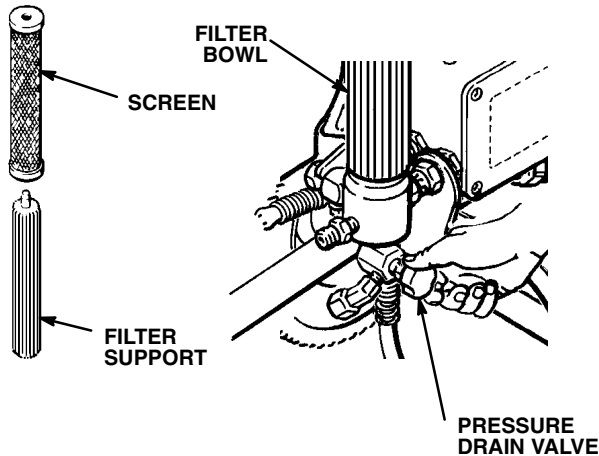

Fig 15-1
2. If the sprayer has been used before, remove the filter bowl and screen; see manual 307-273, supplied. Clean the screen separately and install the bowl without the screen to flush it. Refer to Fig 15-1.